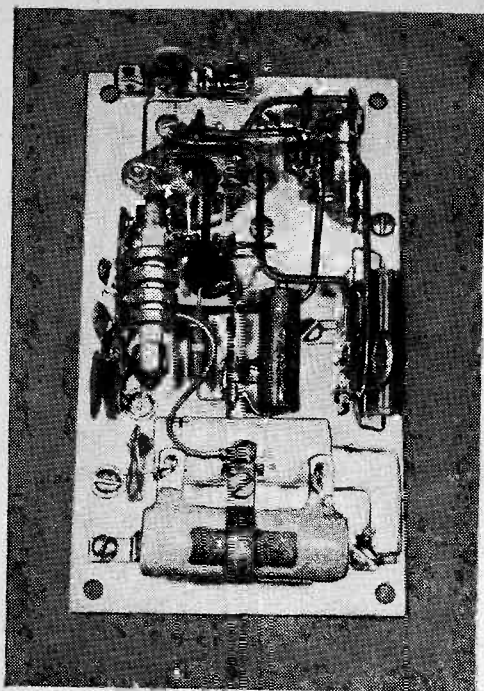

Fig. 1. (left) Receiver chassis before mounting in main chassis. Use  $\frac{1}{4}$ -inch spacers to prevent shorts.
Disconnect the power plug and connect the leads of an ohmmeter (volt-ohm-milliammeter set to measure ohms) to the prongs of the power plug. See figure 1 with the switch turned on, the meter should indicate less than 1000 ohms. If it indicates that the circuit is open (meter needle does not move), examine the power plug to deter-
Fig. 1. The ohmmeter is the best instrument for checking out the appliance's major Nemesis—the open line cord. Wire breaks are common. Look for weak spots in wire near chassis and close to plug.
**The New Way—Unitize.** Now take a look at Fig. 1. See how many components can be grouped on a 3½- by 5-inch flat aluminum plate without crowding. Planning the positions of the components around the socket keeps their leads very short—a good practice in RF-circuit wiring. Many of the other circuit components are mounted in the remaining area. Almost all of the wiring for the receiver can be right on this small base plate. As a complete assembly the plate is mounted inside the chassis, on spacers, with four easily placed machine screws, lockwashers and nuts. All that remains (in this case) is to connect seven wires—to the regeneration and volume controls, phone jack and B-plus and filament voltage connections. Just seven solder connections to be made within the con-
lines of the chassis aprons—the rest of the wiring is finished. The hardest part of the wiring has been done on the  $3\frac{1}{2}$ - by 5-inch base plate which could be moved around, stood on end, on edge or set in just about any other position that would make the job of wiring easier while producing a neat, professional job like that in Figs. 1 and 2.
In the schematic, Fig. 1, the two driver transistors (Q1, Q2) are RCA 2N217's (or RCA Top-of-the-Line SK-3003's). The two power transistors (Q3, Q4) are RCA 2N301/2N2869's (or RCA Top-of-the-Line SK-3009's).
Fig. 1. Schematic for stereo-headphone amplifier shows simplicity of circuit. For mono use just cut amplifier in half across center. Do not attempt to parallel outputs for increased mono power output. Just use two speakers—one for each channel—or try a multiple impedance speaker with half of voice-coil winding as output load for each stereo channel amplifier.